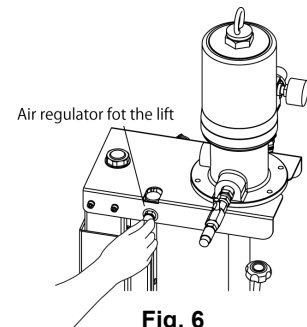

Fig. 6
- 4) Turn the control of the lift air regulator gradually to the right (clockwise) to set the indicator at 0.4 - 0.5 MPa (within normal service pressure). (Fig. 6)